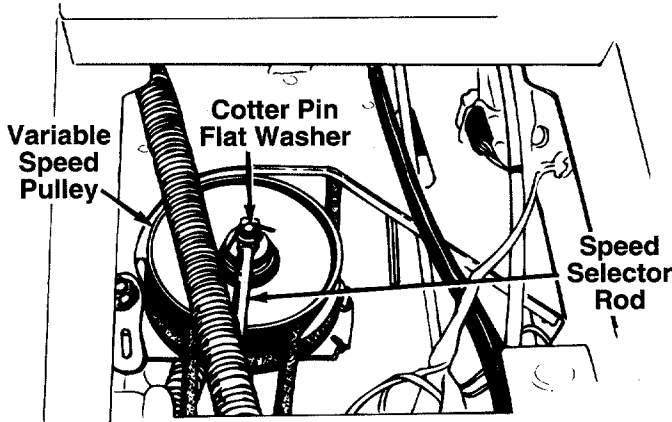

FIGURE 14.
8. Disconnect the speed selector rod from the variable speed pulley by removing the cotter pin and flat washer and lifting rod off the 3/8" pin. See figure 14.